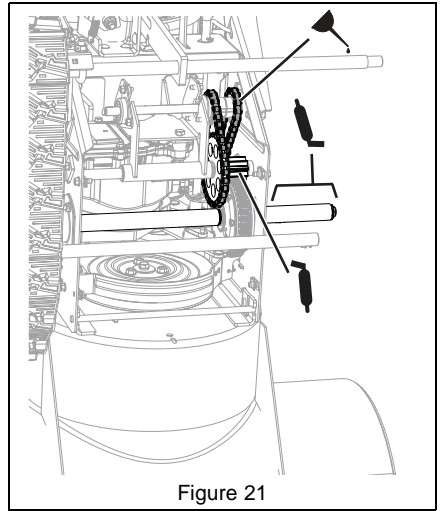

Figure 21
1. Lubricate as shown in Figure 21 and 22. Refer to the service guide for track wheel removal.